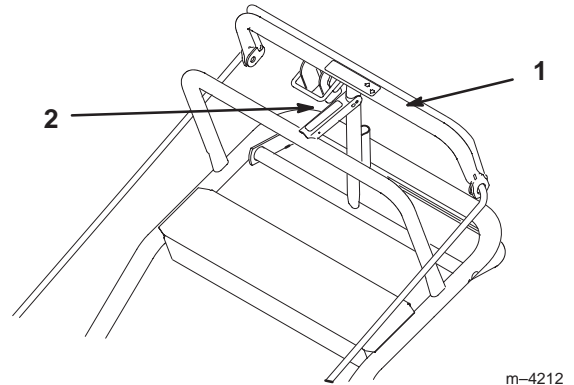

Figure 17
1. Pull the upper control bar rearward and hold it in this position (Fig. 17).
2. Lift the parking brake lock up and gradually release the upper control bar (Fig. 17). The brake lock should stay in the set (locked) position.
1. Pull rearward on the upper control bar (Fig. 17). Lower the parking brake lock to the released position.